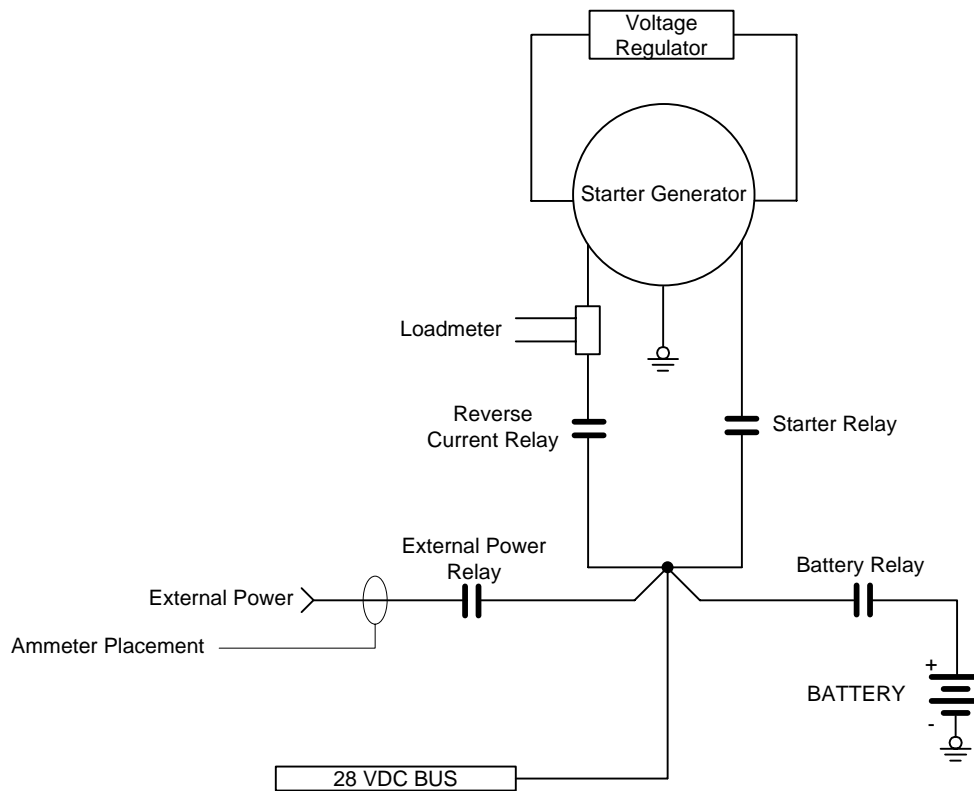

Figure 3-1. Bell 206A/B Electrical Power System
The generator is rated at 150 Amps, but is derated to 105 Amps for this installation. Refer to Figure 3-1 for a simplified diagram of the Bell 206A/B Electrical power system.
4. Insert/attach the ammeter at the external power source to the master relay circuit as shown in Figure 3-1 (this will eliminate errors due to the charging current drawn by the battery).